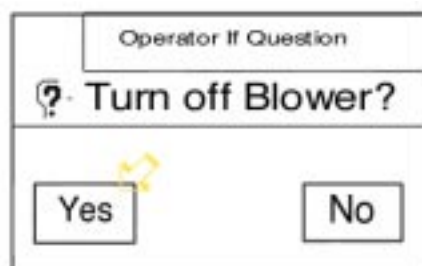

Figure 17
- 116 If testing is completed, turn off the CVS blower after the kit pressure has fallen to zero. See the arrow in Figure 17.